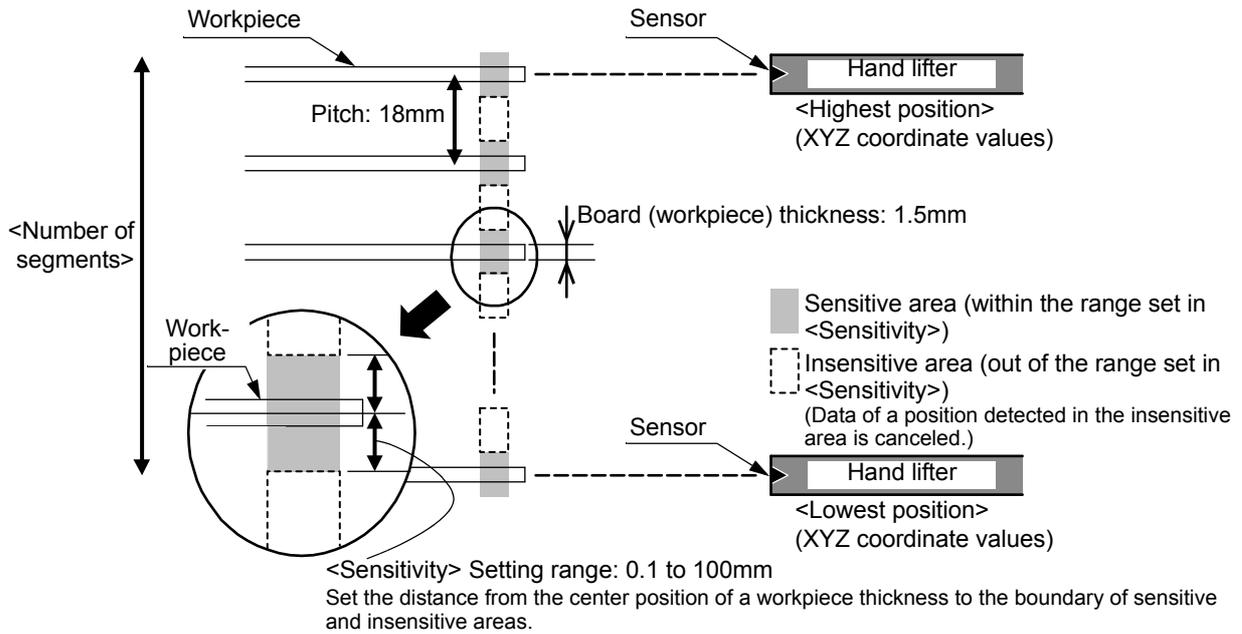

Fig.4-19: Sensitive area of a sensor
- <Sensitivity> Set the sensitive area of a sensor for improvements in accuracy to detect the presence of a workpiece. (Refer to Fig. 4-19.)